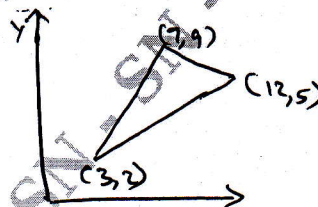

Fig.Q6(b)
b. Determine the Jacobian of the transformations J for triangular element shown in Fig.Q6(b). Also find the area of triangle.